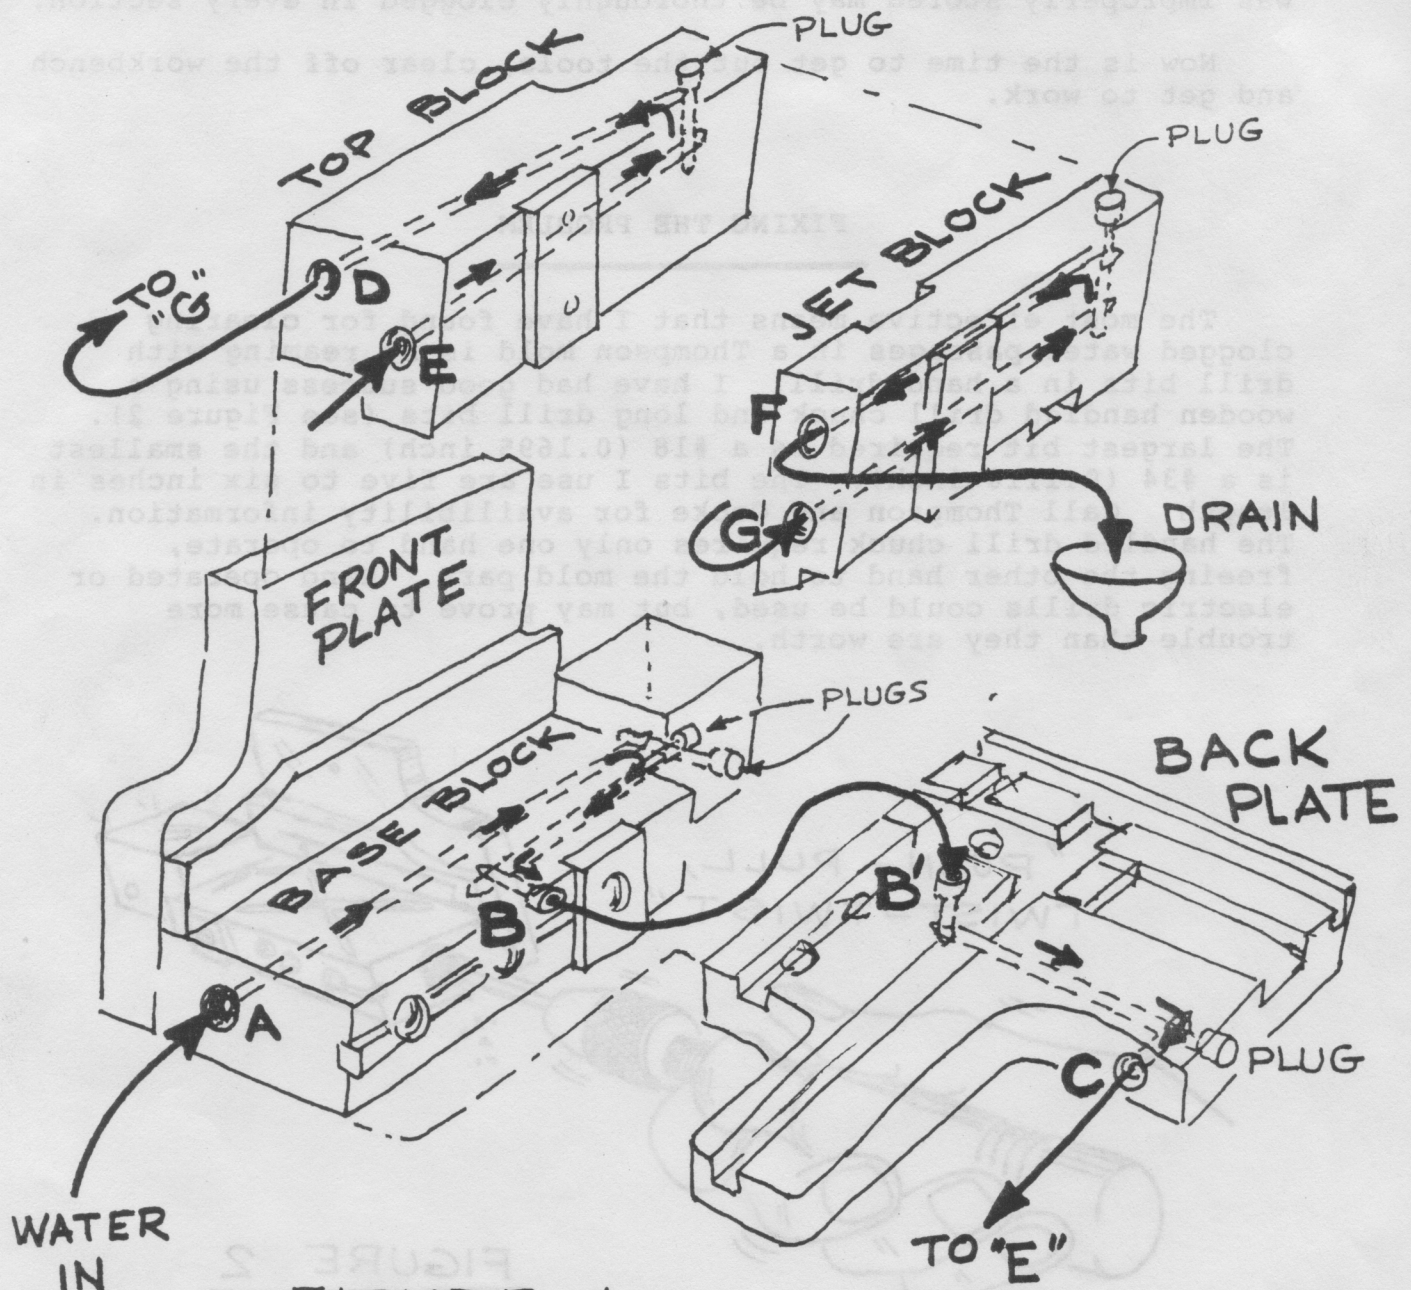

FIGURE 1
Cooling water courses through a series of drilled passages, carrying away heat from the hot end of the mold. Cross drillings connect the ends of the main drillings to create 180 degree reversals or 90 degree bends in flow direction. These cross drilled holes were then sealed with either a brass screw or plug. Mold components are interconnected by means of tubing and compression fittings. Figure 1 is an exploded sketch showing the cooling water circuit of a modern era English Monotype Thompson mold. Older molds should be similar.
After drillings (see Figure 1) in the mold base (A & B), the rear plate (C), the top block (D & E), and the jet block (F & G) have been cleared using drill bits, pipe cleaners and compressed air, and it is still impossible to blow air through any or all of the mold parts, then blockages remain in the hidden, inter-connecting drillings.